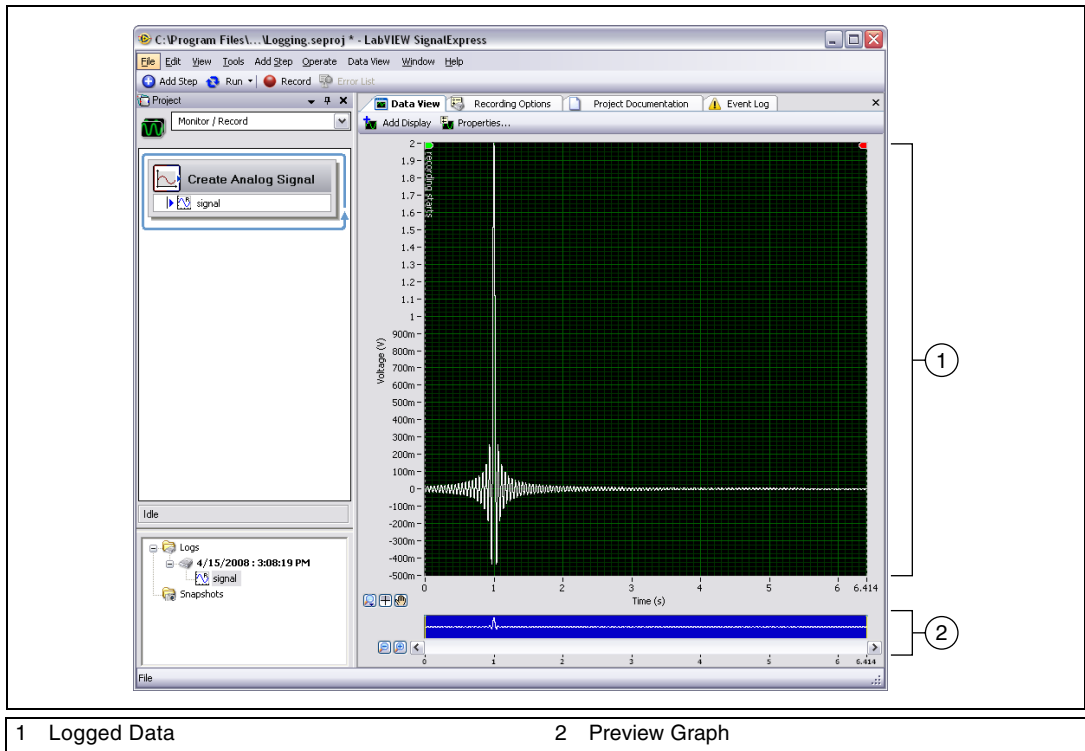

Figure 4-2. Logging.seproj
2. The **Logged Data** window displays a list of all logged data in the current project. Select the data log you just recorded from the **Logged Data** window and drag it to the **Data View** tab. The **Data View** tab displays the logged data and a Preview Graph, as shown in Figure 4-2. The signal displayed on the **Data View** tab might differ from the signal displayed in Figure 4-2, depending on how long you recorded the signal.